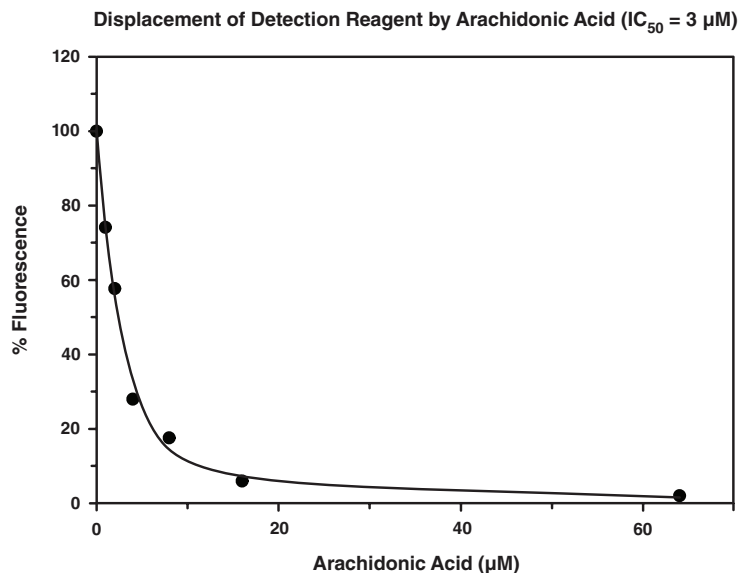

Figure 3. Typical displacement curve
4. Plot the % FU values (from step 3 above) against the concentration of inhibitor/ligand used. An example is given in figure 3, on page 14.